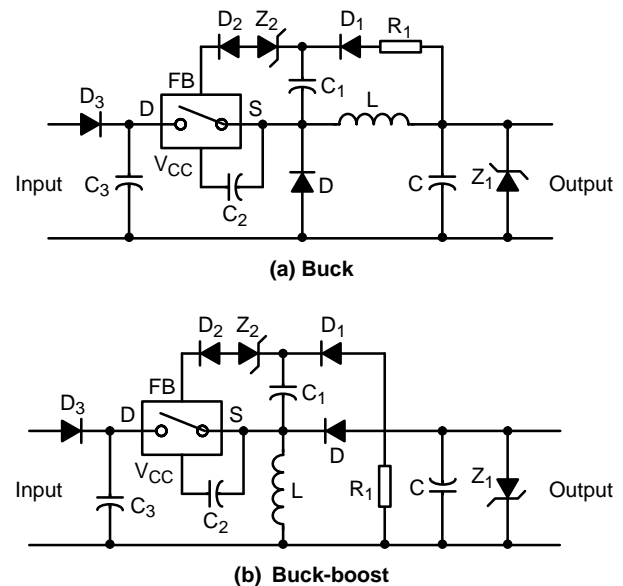

Figure 1. Proposed Circuit Using NCP1052
Figure 1 shows the proposed buck and buck-boost converters. The rectifier circuit, which consists of capacitor C_3 and diode D_3 , is in the front end for AC or DC input voltage. Then, the NCP1052 is self-powered up from the rectified input voltage directly with a V_{CC} capacitor C_2 . When the switch inside the IC is opened, there is a voltage across Drain (D) and Source (S) pins of the IC. If this voltage is greater than 20 V, an internal current source $I_{start} = 6.3$ mA (typ.) inside the IC charges up C_2 and a voltage in C_2 is built up for the operation of the IC. Comparing to the switching frequency, the V_{CC} voltage level is in a lower-frequency 7.5-8.5 V hysteresis loop. This V_{CC} hysteresis loop is for frequency jittering features to minimize EMI and short-circuit fault timing function.
output voltage will rise up dramatically and burn the output capacitor eventually. Hence, a zener diode Z_1 or minimum “dummy” load resistor is needed to consume the minimum amount of energy as shown in Figure 1. It is also noted that when R_1 pulls up the output voltage at a given output current condition, the output voltages at lower output current conditions are also pulled up. Hence, the clamping zener diode Z_1 is needed to be with the breakdown voltage as same as the output voltage but it will reduce some of the efficiency at lower output current conditions.